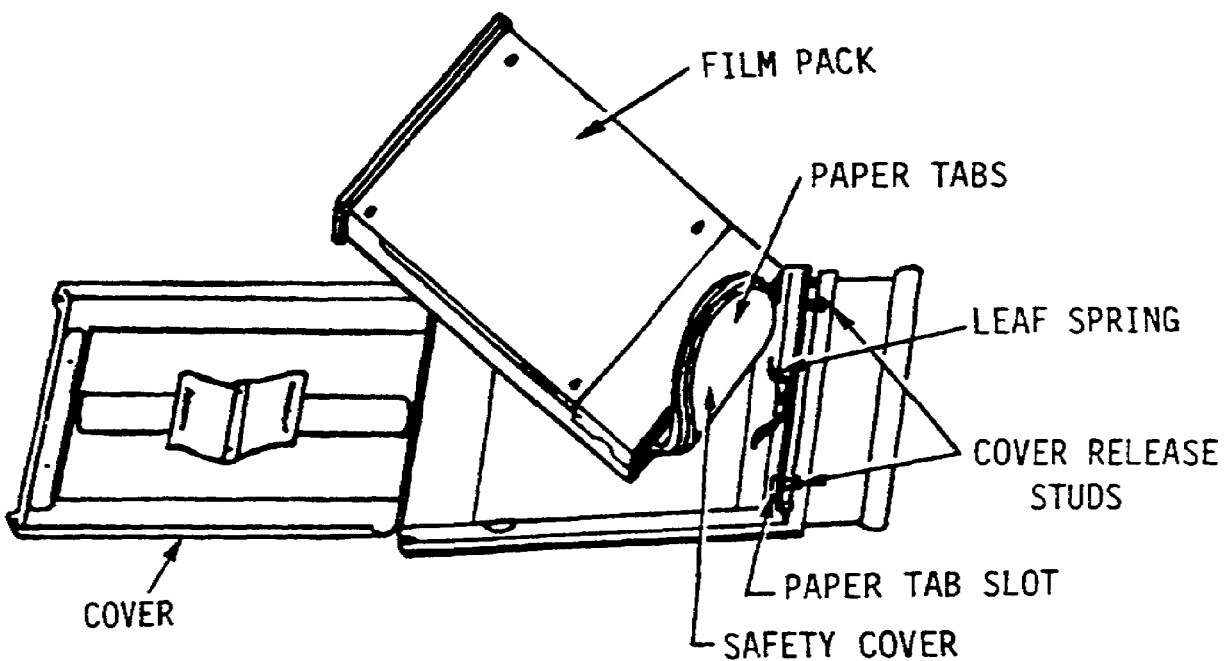

Figure 1-32. Film Pack Adapter.
- (4) Slip the corners of the unnotched shorter edge of the cut-film under the film slips (along each long side of the septum) and slide the film completely into the holder.
- (5) Swing the bottom flap closed and hold down firmly.
- (6) Insert the dark slide into the slide channel so that the raised identification dots face up and away from the cut-film holder.
- (7) Push the dark slide all the way into the cut-film holder; make sure the end of the leading edge of the dark slide engages the groove along the edge of the bottom flap.
- (8) Turn the slide hook over the end of the dark slide to prevent accidental removal of the dark slide.
- (9) Load the reverse side of the cut-film holder by repeating the procedures in (1) through (8) above.
- (10) Load additional cut-film holders by repeating the procedures in (1) through (9) above.
c. Loading film pack adapter (fig 1-32). The film pack adapter may be loaded under existing lighting conditions. DO NOT expose the film pack to direct sunlight during loading.